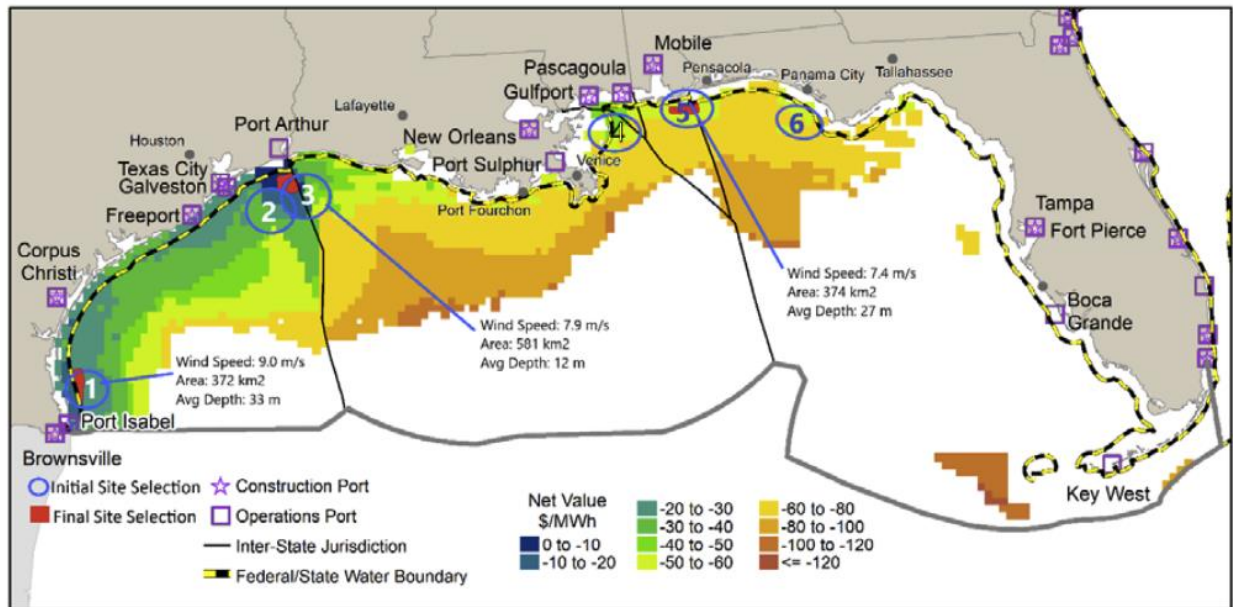
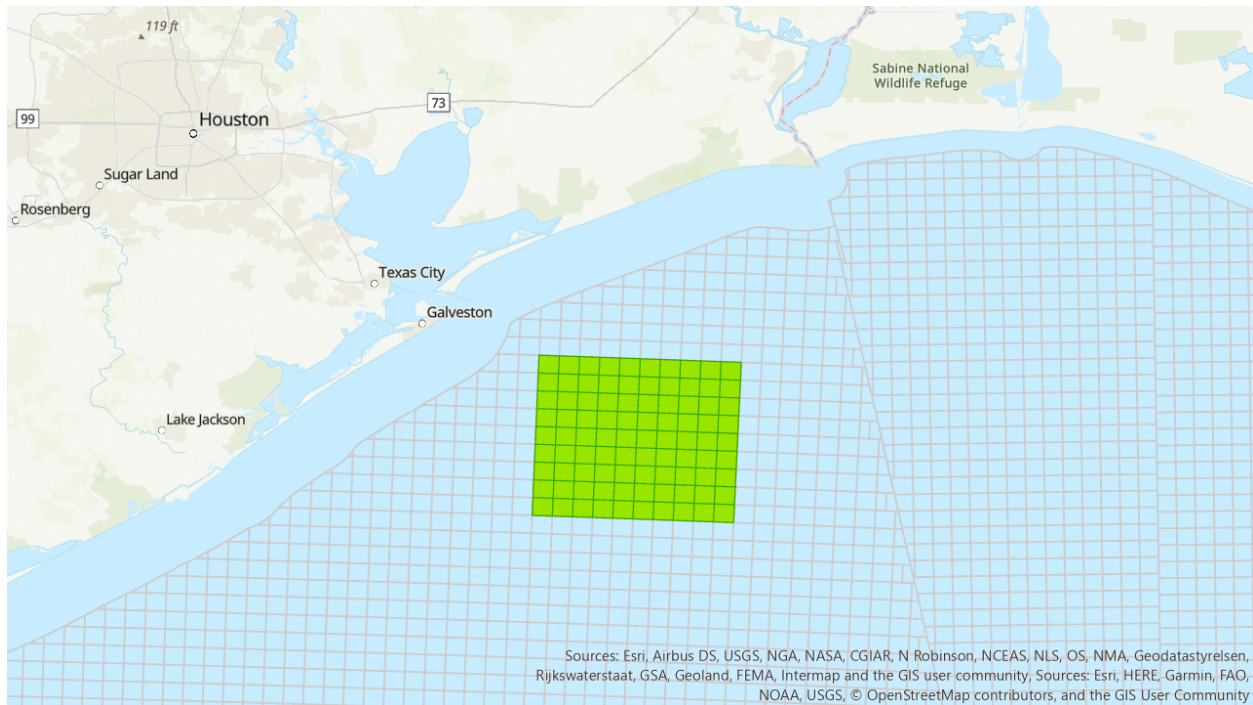

Figure 16. Map of offshore Gulf Coast auction area
Figure 17. CWC's Auction Area off the coast of Galveston.
1. Select a specific lease area (one or more lease blocks) within the Galveston, Texas, auction area, defined by the circle labeled “2” on the map in Figure 16, and shown in more detail in Figure 17.
This auction area is available via a shape file in the CWC Box folder named “Galveston Lease Blocks”. The auction area is pictured in Figure 17 below. You will just need 3 components from that folder for valid shapefile– the .shp, .dbf and .shx. The other files are supplemental – indices, metadata, projection etc.